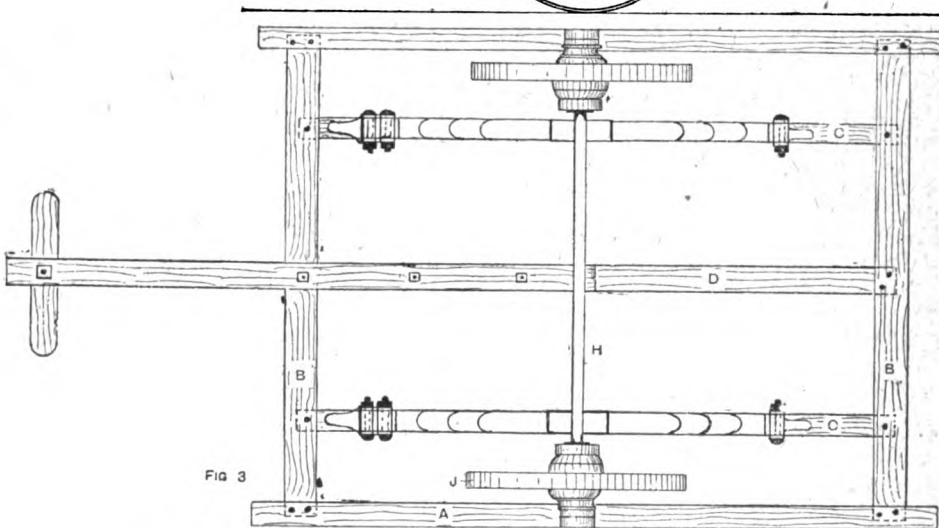

FIG 3
**Piano Truck.**—The framework of a piano truck should be of thoroughly dry English ash. The outer bars A (Figs. 1, 2, and 3) are 5 ft. 6 in. long by 3 in. deep and 2 in. thick, and are tenoned together with the cross-bars B (Fig. 3), which are 3 in. wide by 2 in. thick, the frame being 5 ft. long by 4 ft. wide outside. The two summers C are 2 in. square, and the centre one D is 2½ in. wide by 2 in. deep. When put together for good the tenons and mortises should have a good coat of white-lead mixed with raw linseed oil. The boards on top of the frame are 1 in. thick, and bring it level with the side pieces. The handle is 2½ in. square under the frame, and tapers slightly to the front, the
**Fixing Heavy Gateposts.**—The drawings show a pair of framed and braced gates each 6 ft. wide by 8 ft. high, the framework being  $2\frac{1}{2}$  in. thick, hung to pitchpine posts 9 in. by 9 in. All the support for the posts is provided below the surface of the ground as shown at Figs. 1 and 2. A main sill or sole piece is provided and two pieces about 9 in. by 5 in., these and the main sole pieces being lapped together. The posts tenon into the main sole piece and are kept in position by braces about 5 in. by 5 in. in section. These braces would have tenons fitting into mortises in the sole piece and post, details being shown at Figs. 3 and 4. It will be seen that the posts are only braced in the two directions of principal leverage when, as in a great many cases, the gates work through an angle of  $90^\circ$  only; in other cases, where the gates open through an angle of  $180^\circ$  as indicated by the dotted position A (Fig. 1), braces B would be